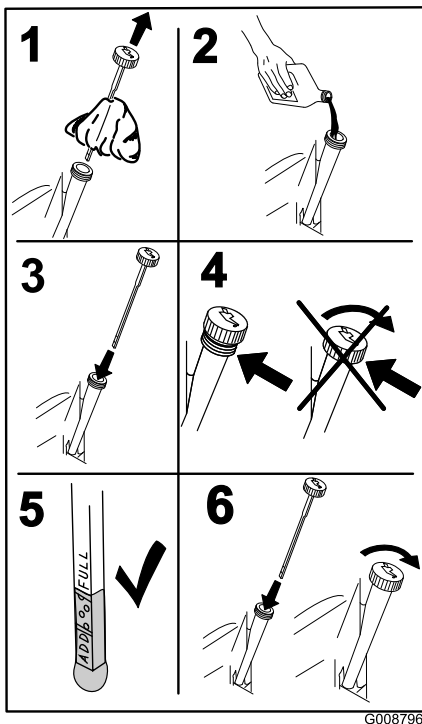

Figure 46
5. Slowly pour approximately 80% of the specified oil into the filler tube and slowly add the additional oil to bring it to the **Full** mark (Figure 46).